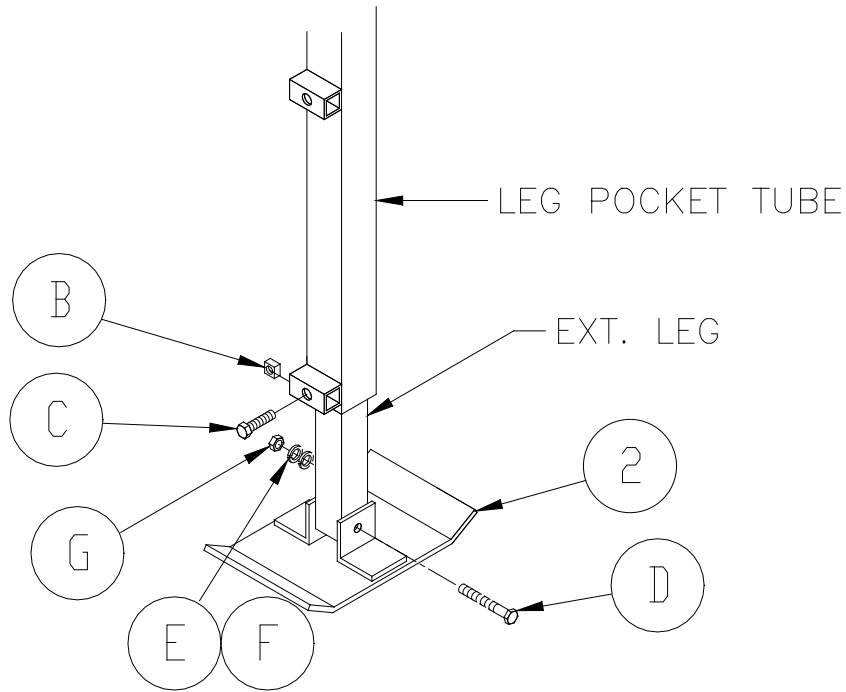

Figure 2-1.
1. (Refer to Figure 2-1) The dock extension legs slide into the leg pockets that are on the dock leg frames. Determine the leg length required. Slide the leg through the leg pocket tube as shown in the figure. To once the leg is in the desired position, slide a square nut (15) into the nut keeper tube located on the leg pocket. To lock the leg in place, tighten down the 1/2" (C) bolt to secure it. Each leg pocket has two capture nuts.
2. Attach the foot plate (A) to the bottom of the extension leg as shown in the figure. Fasten into place using a 3/8" bolt (D), 3/8 hex nut, lock washer, and flat washer (G, E, F).